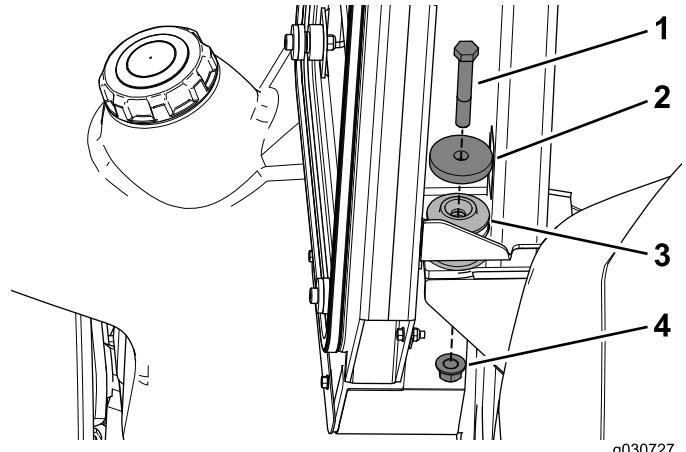

Figure 27
- Use a bolt (1/2 x 3-1/4 inch), washer (2-1/4 inches), and locknut (1/2 inch) to secure the cab to the rear mounts on the machine (Figure 27).